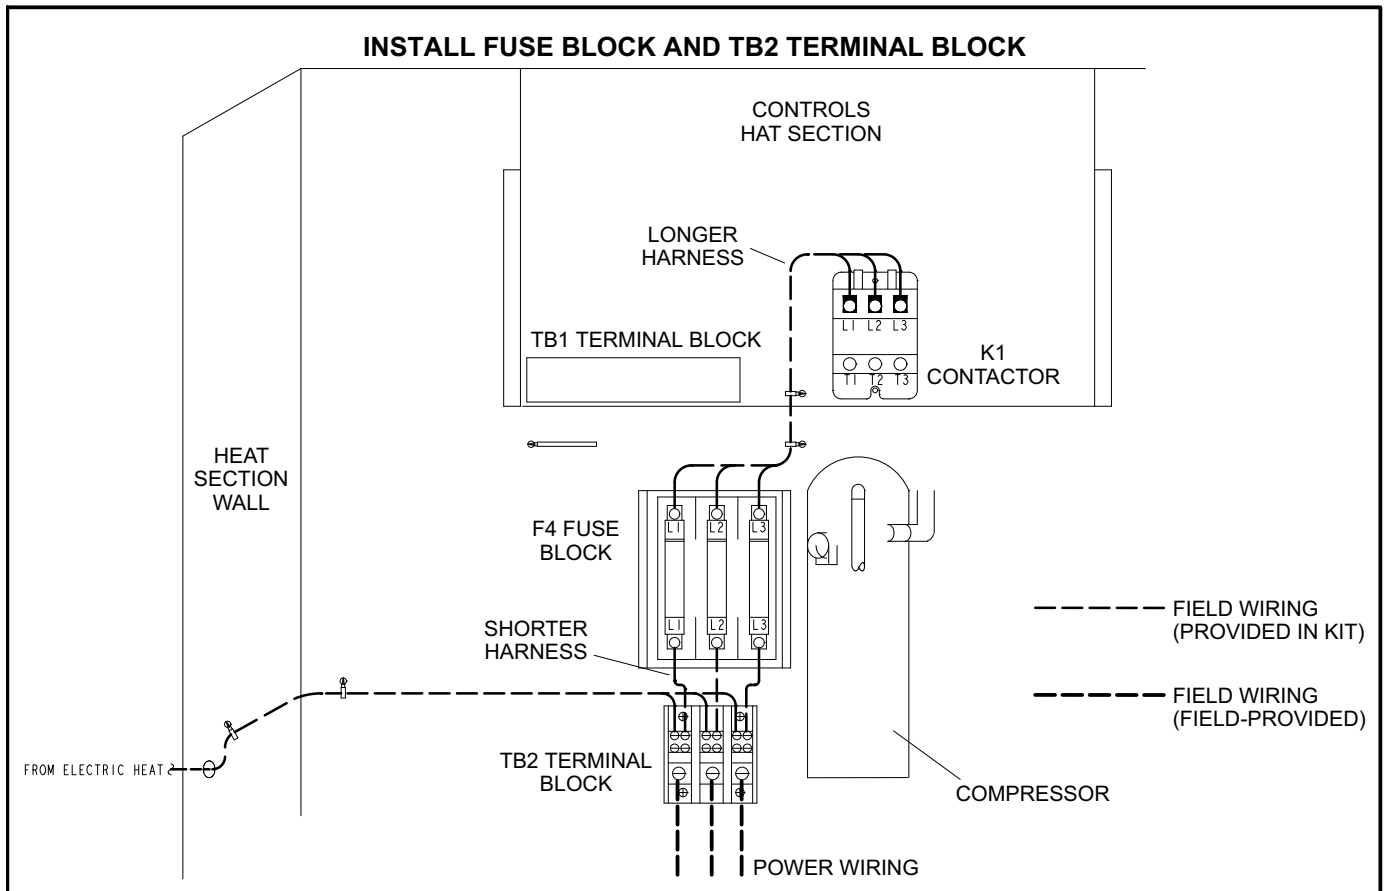

FIGURE 3
- 2- Install fuse block and TB2 terminal block in locations shown in figure 3. Secure with #8 screws provided. Retain three screws to secure fuse block enclosure.
Wiring must conform to local codes and the current NEC/CEC. Refer closely to figure 3, the field wiring diagram in this kit, and the following information: If heater is being installed in an existing unit, a change in power supply wiring may be required. Remove the original supply wires or disconnect at power source. Refer to heater nameplate for minimum circuit ampacity and maximum fuse size.
- 2- Route power wires from electric heat assembly to control area. Connect wire to load side of TB2 terminal block. Refer to figure 3.